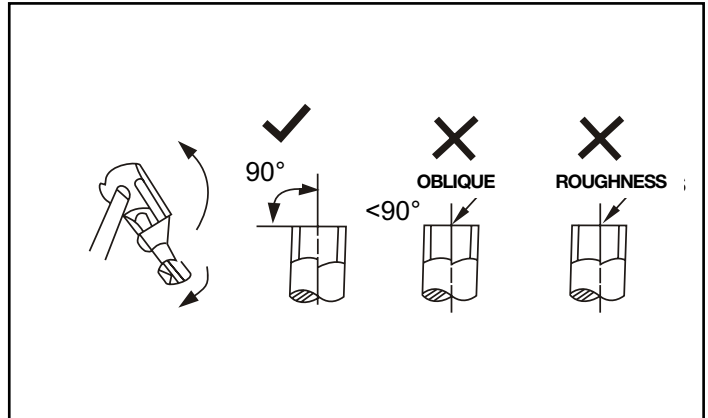

fig.12
- 1c. The pipes are cut at 90° to the axis, and the cut is smooth and without burrs (fig. 12).